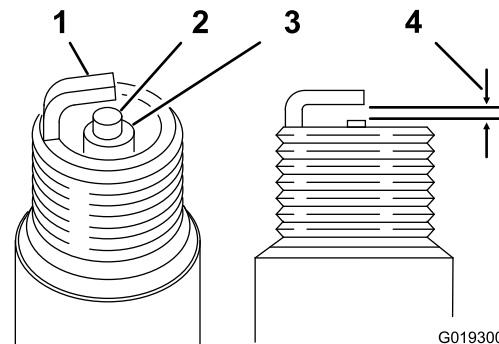

Figure 45
- Look at the center of the spark plug (Figure 45). If you see light brown or gray on the insulator, the engine is operating properly.
- Check the gap between the center and side electrodes (Figure 45) if the gap is not correct.